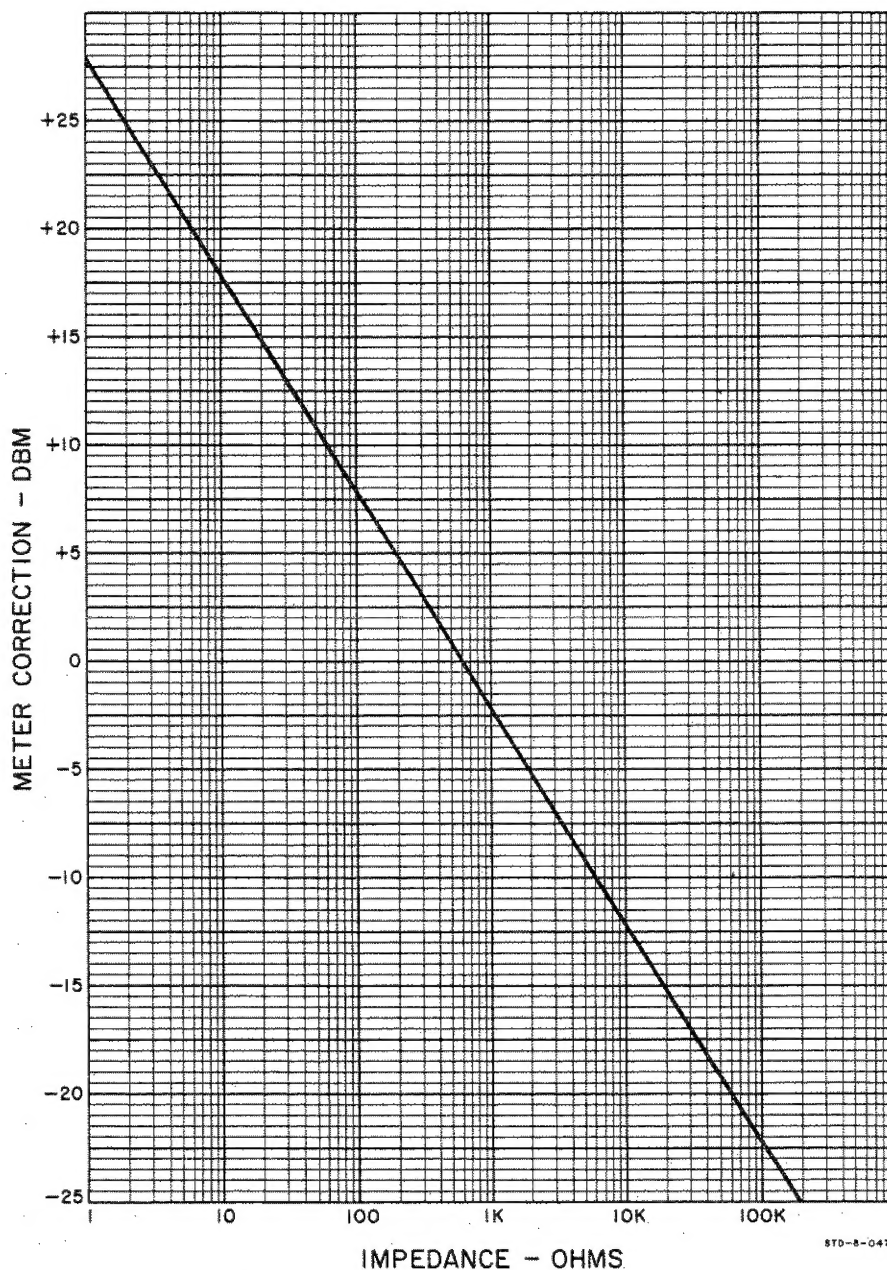

Figure 3-3. Impedance Correction Graph
- c. To convert a dB reading to dBm, use the Impedance Correction Graph (Figure 3-3). For example: To convert a +30dB reading made across 50 ohms to dBm, locate the load impedance on the bottom of the graph. Follow the impedance line to the heavy black line and read the meter correction at that point. The correction for 50 ohms is +10.5dBm, and the corrected reading is +40.5dBm.